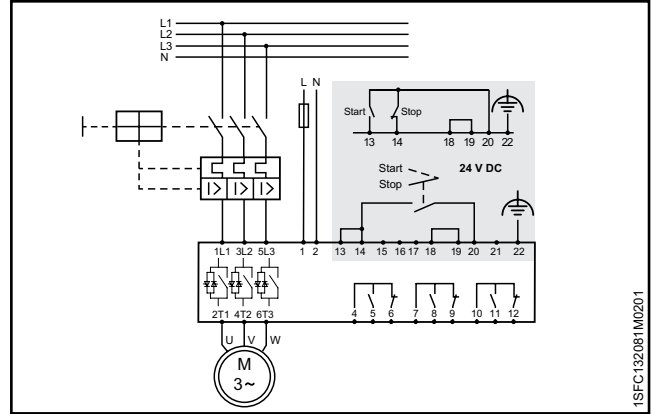

Figure 2.6
- Connect terminals 4, 5, 6, 7, 8, 9, 10, 11 and 12 to use the signal output relays. These are potential-free contacts for maximum 250 V AC, 1.5 A AC-15 and 30 V DC, 5 A DC-12. See **Figure 2.6**.